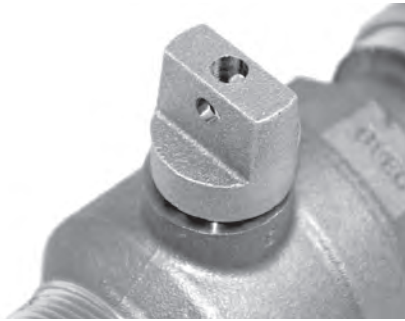
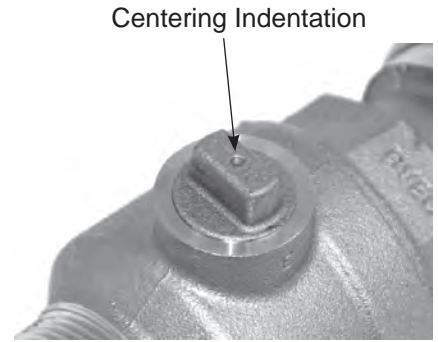

Figure 2. Tee-Head Adapter
Figure 3. Mark on top of
1. If the operating stem has a centering indentation, as shown in Figure 3, skip Steps 1 and 2 and begin with Step 3. Position the adapter on the top of the Ballcorp operating stem so the adapter wrench flats align with the stem in the valve's closed position. (Ballcorps are shipped in the closed position.) The adapter's cast slot must rest on top of the Ballcorp operating stem and must engage the sides of the operating stem wrench flats. See Figure 2.
2. Making sure the adapter is centered and stable on the Ballcorp operating stem, mark the adapter screw hole position on the top of the Ballcorp operating stem using the adapter screw thru-hole as a marking guide. See Figure 3.
3. Using the stem mark (Steps 1 and 2) or centering indentation (see Figure 3) for drill placement, drill a 0.1495" (# 25 drill) diameter hole x 0.38" deep in the Ballcorp operating stem. **Caution - Do not exceed 0.50" drilled hole depth or angle the drilled hole. Failure to properly align the drilled hole or excessive hole depth may result in valve leakage and failure.** Remove any chips from the hole in preparation for tapping.